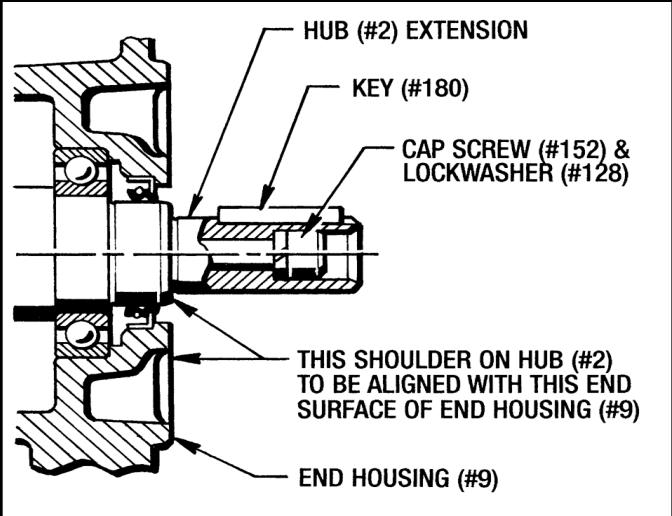

Figure 4 - Hub Alignment
NOTE - The Hub (#2) will be pulled in as the Screw (#152) is tightened. Re-align the Hub (#2) by pulling it outward while tightening the Screw (#152). The shoulder on the Hub (#2) should be in approximate alignment with the End Housing (#9) as shown in *Figure 4*.
1. Attach the Drive Motor and Brake Assembly to the Gear Box or Driven Machinery with the (4) 3/8"-16 Mounting Bolts (Customer Furnished). **Torque to 25 Lb. Ft.** Connect the coupling as per manufacturer's specifications.
2. If the Drive Motor is to be bolted down to the base, use motor shims under the feet to properly align the drive motor with the gear reducer as shown in *Figure 4*. **This is very important so the Coupler Brake will not be pulled down or pushed up.**